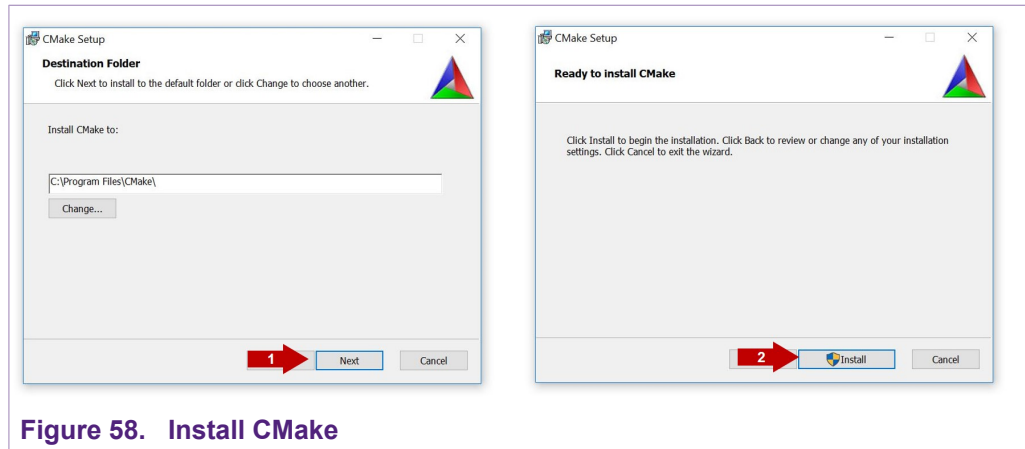

Figure 58. Install CMake
7. Select a destination folder, (1) click **Next** and then (2) click **Install** as shown in Figure 58: